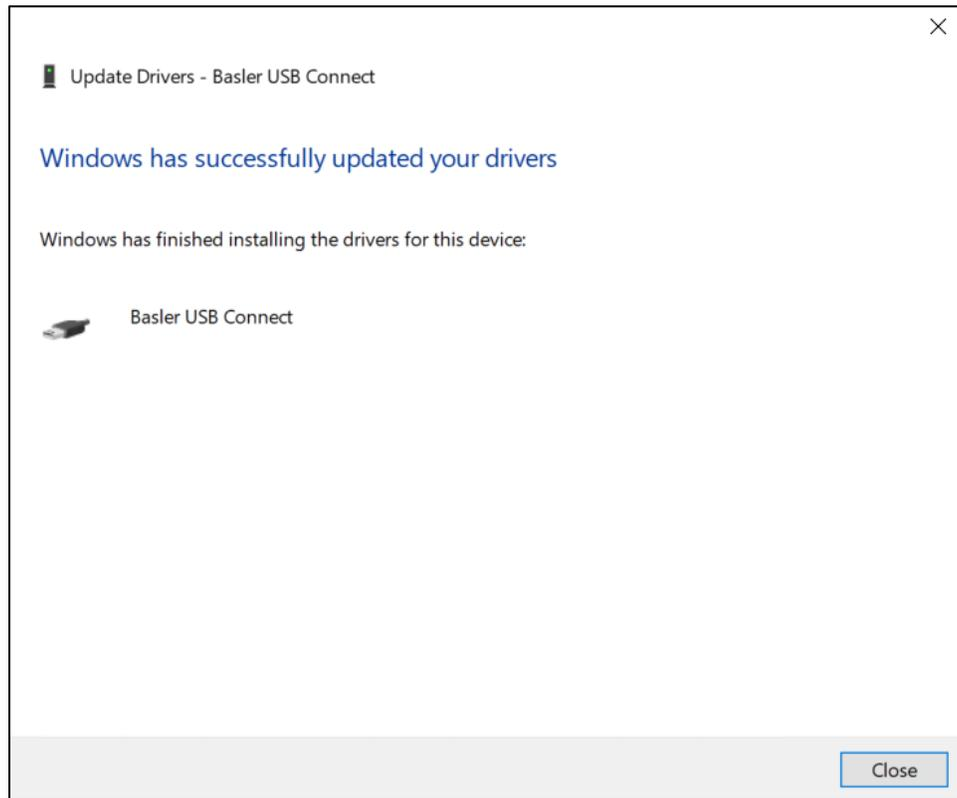

Figure 62-9. Driver Software Update Successful
Step 8. The window in Figure 62-9 appears if driver installation was successful.